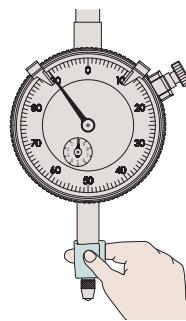

Fig. 1
1. Use a dry cloth or a cloth moistened with alcohol to clean the spindle without lubrication. (Fig. 1)